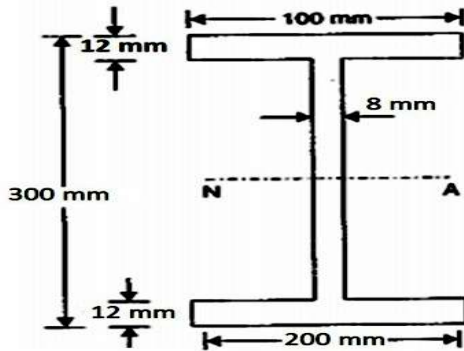

Fig. 5
7. (a) An I-section shown in Fig. 5 is simply supported over a span of 12 m. If the maximum permissible bending stress is 80 N/mm², what concentrated load can be carried at a distance of 4 m from one support?